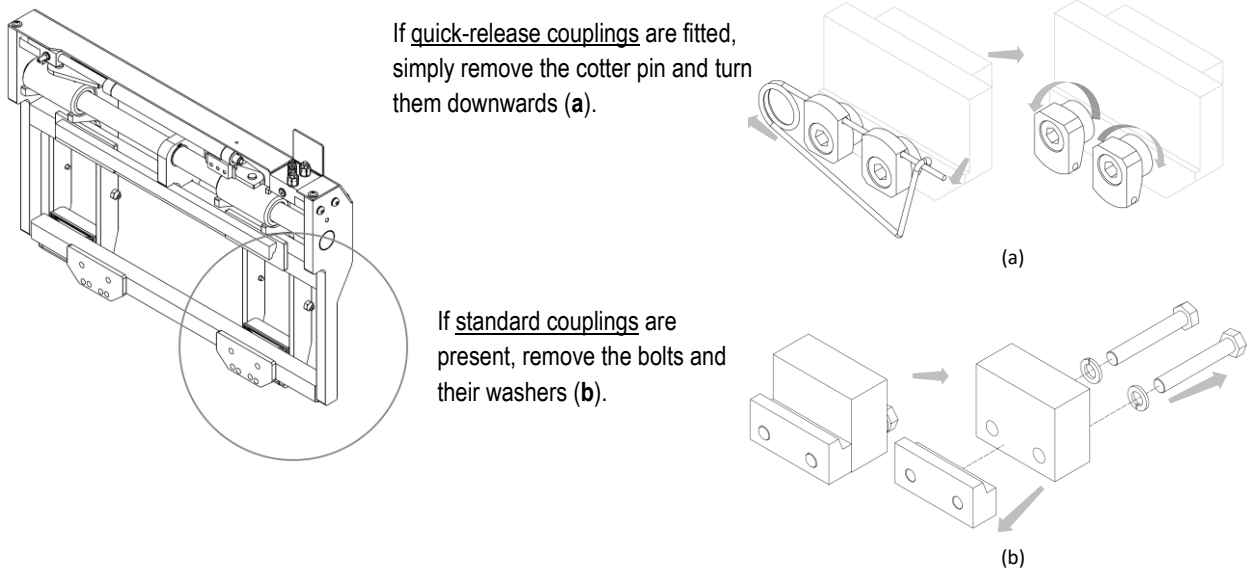

Figure 6
4. Remove the lower couplings from the equipment (see *Figure 6*).